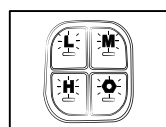

Fig. 6B
10. When 4 lights flash at once it symbols either the tool or the battery failed . Please check carefully . (Fig . 6B)